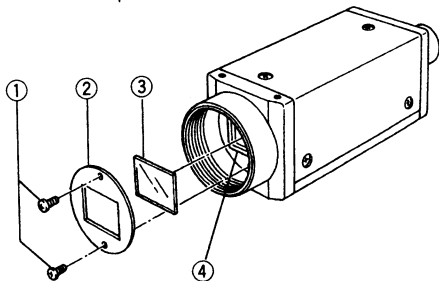

Fig. 6
- (1) Remove two screws ① shown in Fig. 6, and filter holder ② will come off.
- (2) Remove the IR cut filter ③ from filter frame ④.
- (3) Reinstall and secure filter holder ② with two screws ①.